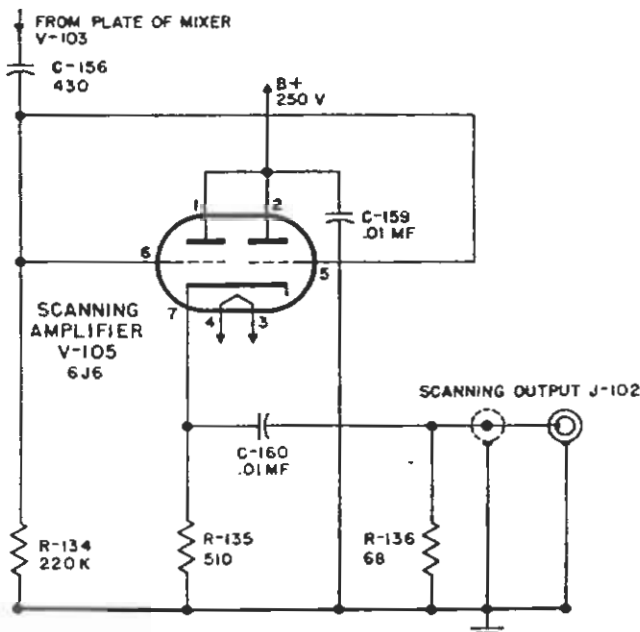

Figure 2-5. Scanning Amplifier.
(5) SCANNING AMPLIFIER (V-105). (See figure 2-5.)